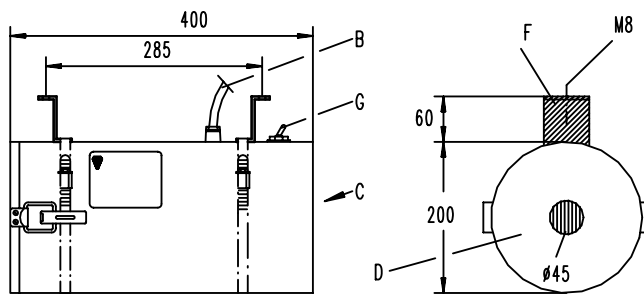

Fig. 2
- F = (fig. 2) fastening / supporting, M10
- G = (fig. 2) on- / off switch